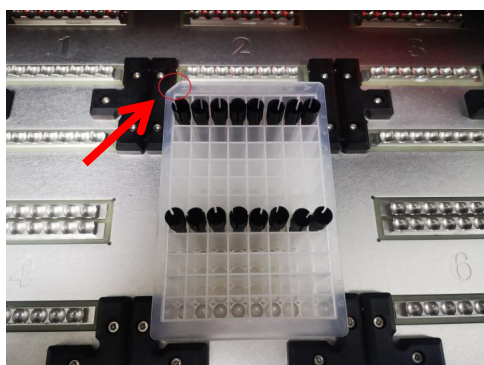
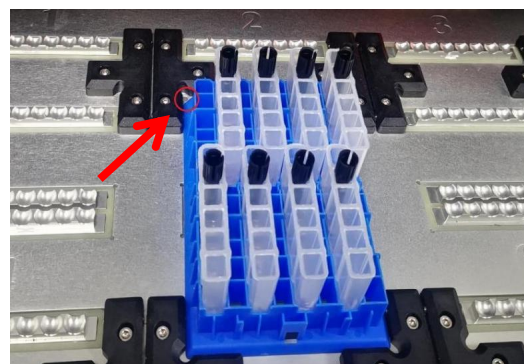

Figure 5. 96-deep well plate
Figure 6. Put the single kit docking into the instrument
**⚠ Note:** The user should ensure the marked notch of the plate of the 96-deep well plate and 6 strip tube is on the left, which is shown in Figure 5 and Figure 6.